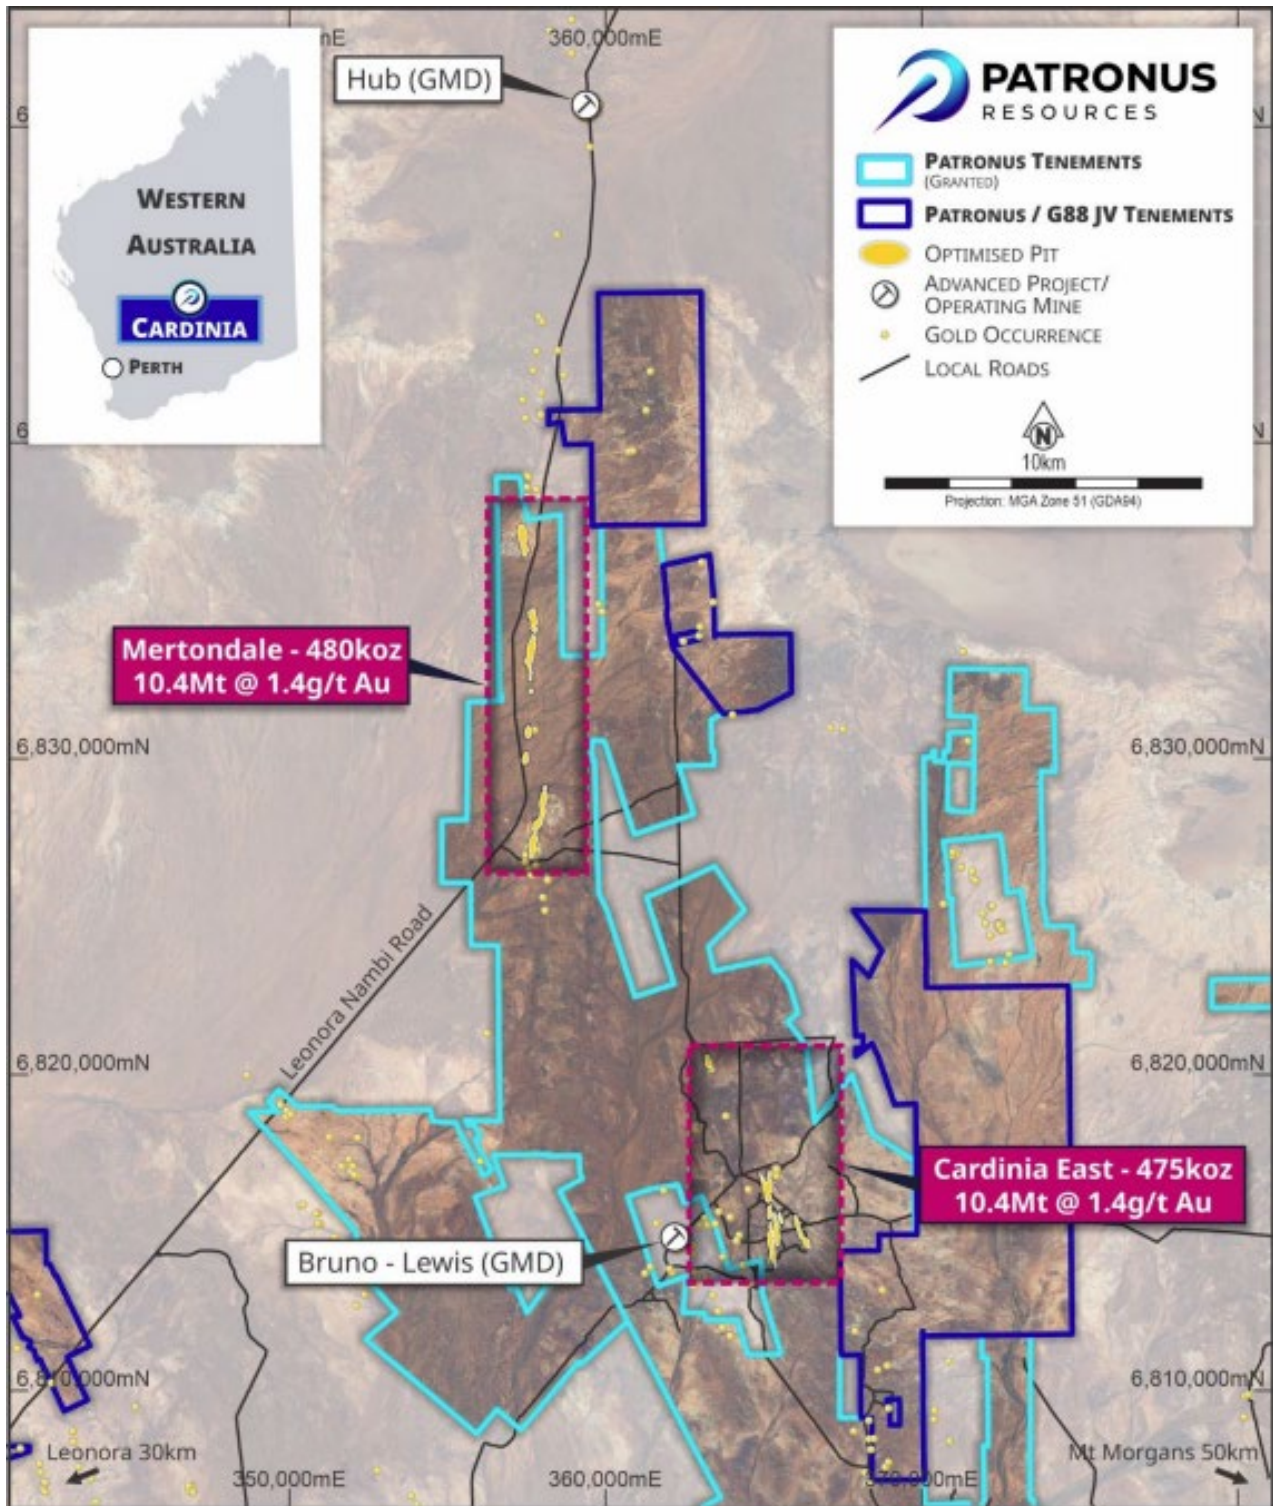

Figure 1 – Location overview of the Mertondale and Cardinia East Resources at the Cardinia Gold Project, Leonora.
- NMAC1275: **5m @ 1.74g/t** from 36m (see Figure 1) (refer Table 2 and 4 below)